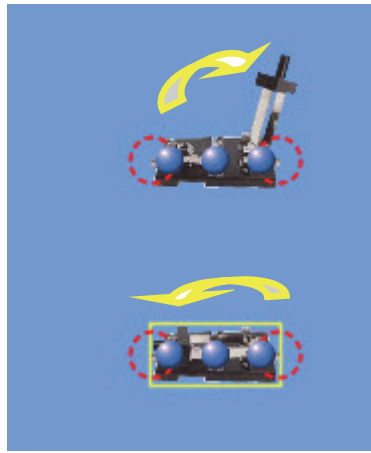

Figure 1-15
7. The final component in which you will begin with is a lever switch. The switch can be opened and closed by holding your left key of your computer's mouse down and moving the level towards or away from the base. (Figure 1-15)